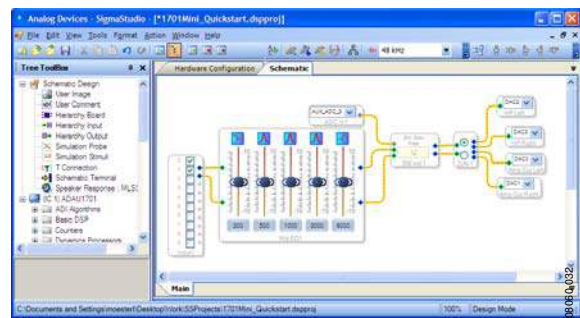

Figure 4. Schematic Tab, Full Design
11. Connect all the cells as depicted in Figure 4.
Your screen should now appears as shown in Figure 4.